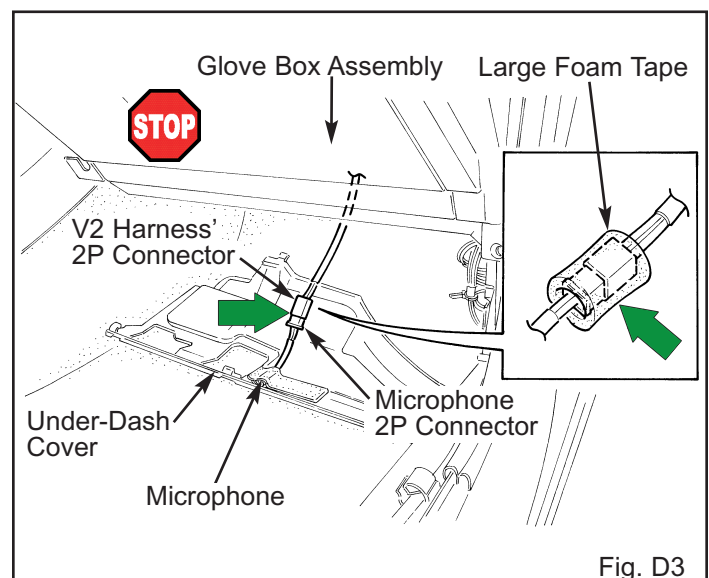

Fig. D3
4. Refit the glove box assembly. (Fig. D3)
5. Plug in the microphone's 2P connector to the V2 harness' 2P connector. (Fig. D3)
- ➡ 6. Wrap the 2P connector with one large strip of foam tape. (Fig. D3)
7. Refit the under-dash cover. (Fig. D3)